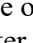

Figure 190: Eye Display application banner
**banner** Select and hold anywhere on the Eye Display application tile to open the available options. (See Figure 190.)